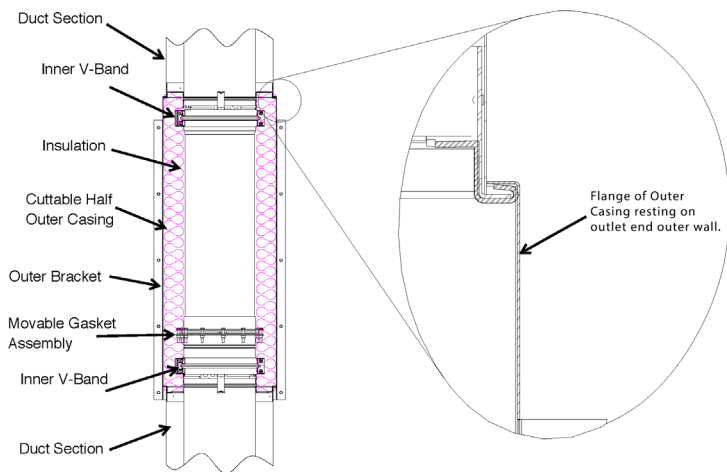

Figure 19 - Installation of Adjustable Length Step 6
6. Install the outer pipe casing insulation (and insulation strip Models DIS1, DIS2, DIS4, and DIS3Z) so the side with the bracket goes on the upstream section. See Figure 19.